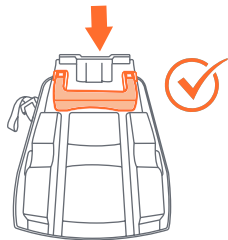

Fig. 53-1
- 1- Turn Base over with elevation foot away (Fig. 53-1).